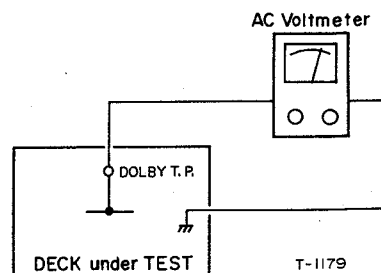

Fig. 6-4 Connection (1)
2. Adjust R10/R20 controls for 580 mV (-2.5 dB) on the AC Voltmeter connected to the DOLBY test points, as shown in Fig. 6-4.